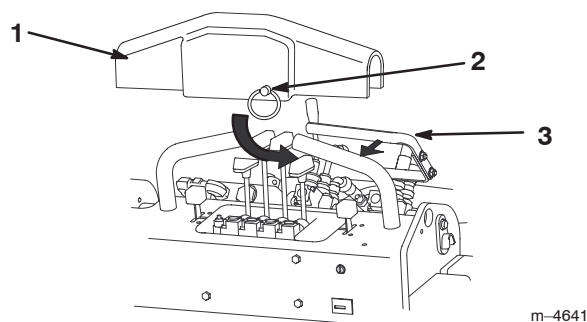

Figure 13
- B. Pull the auxiliary hydraulics lever to the operator grip and install the hydraulics lever clamp by pushing it over the hand grip and sliding it right so that the pin through the clamp slides under the right hand grip (Fig. 13).
5. Remove the hydraulics lever clamp (Fig. 13 or 14).